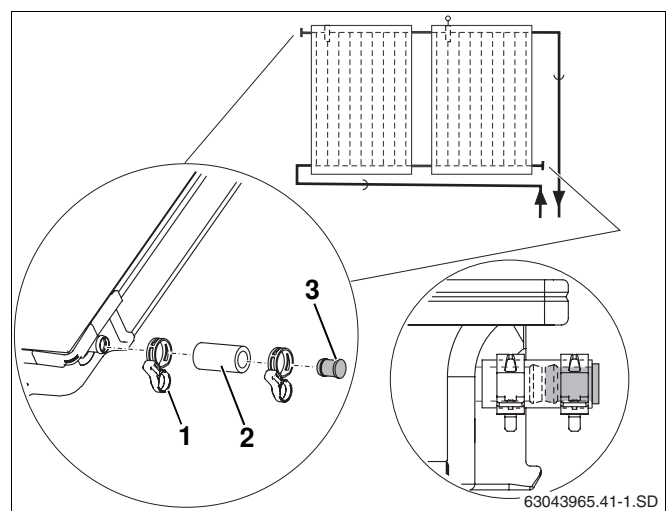

Fig. 43 Fitting the dummy plug and hose clip
- Put 55 mm solar hoses (Fig. 43, **Item 2**) together with the pre-assembled dummy plug onto the two free connections on the collector array.